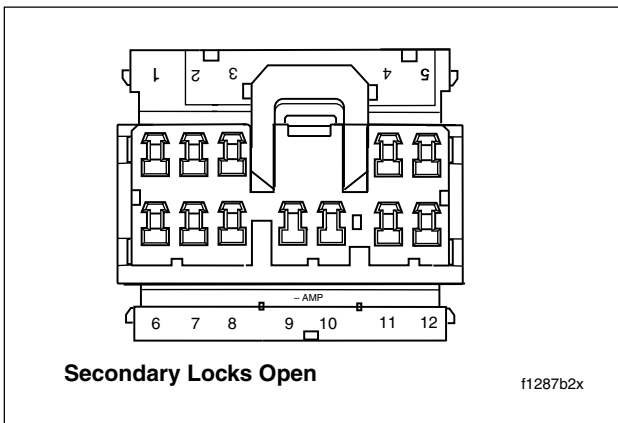

Figure 8-77. Numbers Stamped on Secondary Locks (Socket Housing Shown)
- Follow the wires of the faulty switch to the socket housing, or reference Figure 8-77 and Table 8-10 for the applicable chamber numbers. For wire location purposes, numbers are stamped into the secondary locks of both the pin and socket housings.